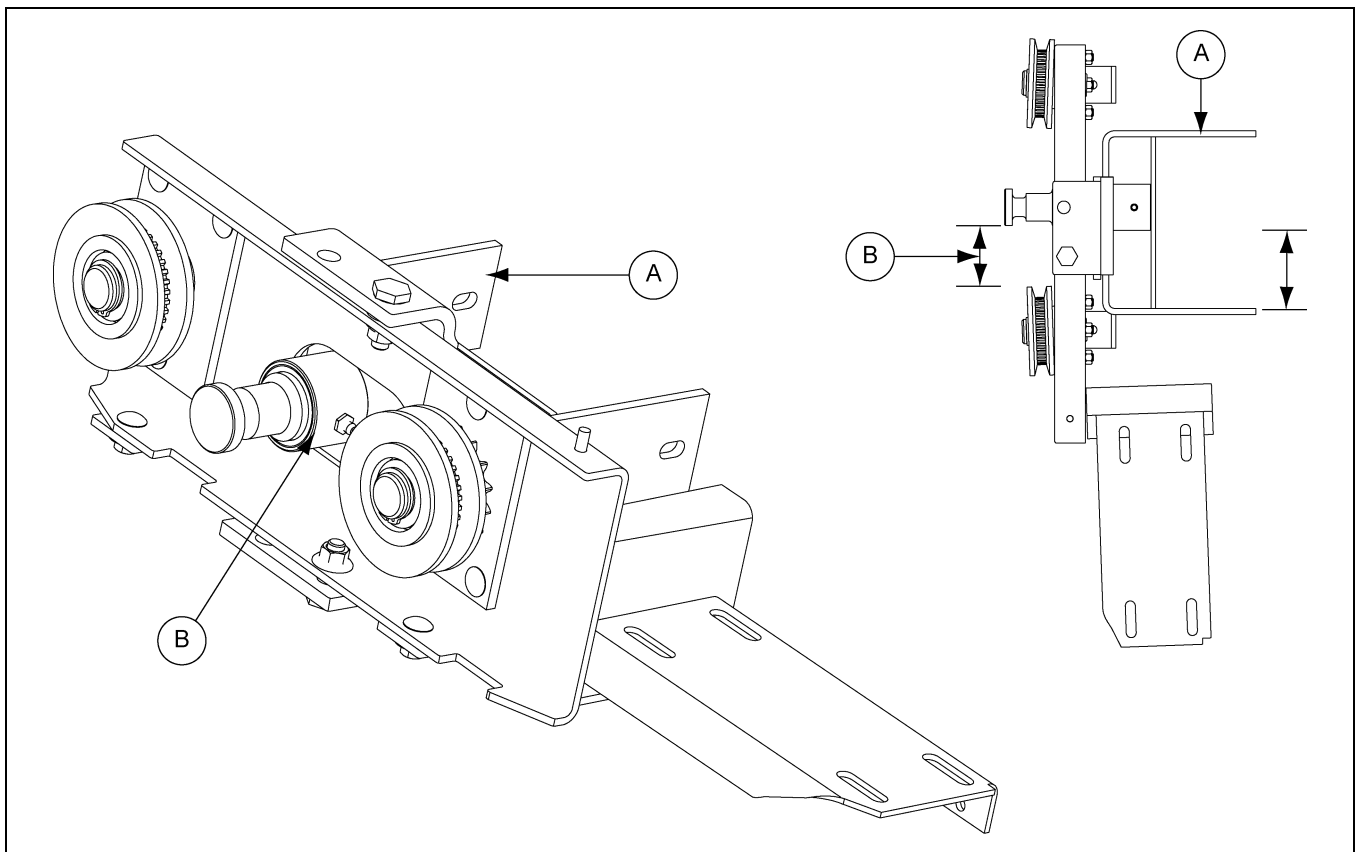

Figure 1 *Current, Incorrect Position*
4. Turn over the pivot bracket (A) and install it into the 1.5 HP position using the previously removed bolts. *See Figure 1* to view the **incorrect** positioning of the pivot shaft in the slot cut-out of the track assembly (B).